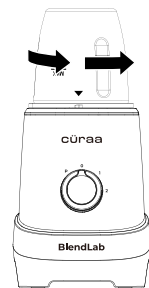

Fig. 4
- When the grinding is finished, turn the Jar anti-clockwise to unlock from the motor unit (Fig. 4).